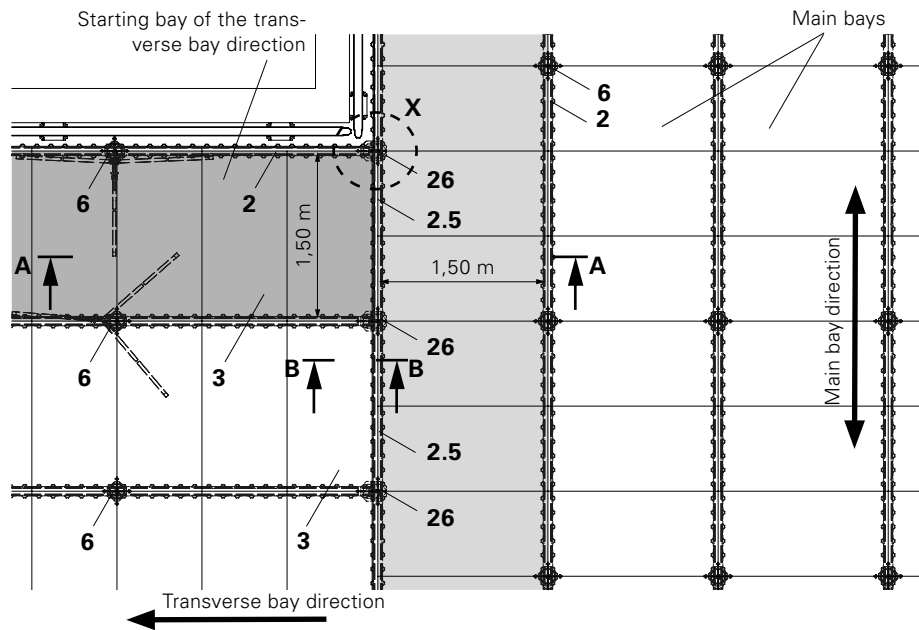

Fig. A10.02
(Fig. A10.02)
1. Install slab prop with Prophead SDSK (26) with a spacing of 1.50 m and secure with tripods.
2. Mount Main Beam SLT 150 (2.5) instead of SLT 225. (Fig. A10.02 + A10.02a)
3. Continue assembling in the direction of the transverse bay with slab prop, Prophead SSK (6) and Main Beams SLT: see Section A4 Shuttering. (Fig. A10.02 + A10.03)
4. Install Panels SDP 150 x 75 (3) in the direction of the transverse bay. (Fig. A10.02)